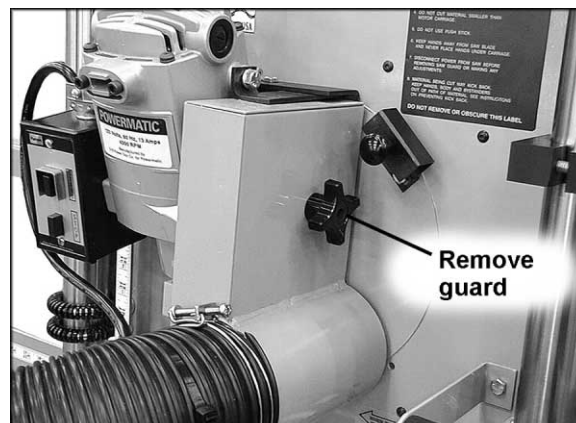

Figure 13
2. Tighten carriage lock and remove the blade guard by unscrewing and removing the knob, shown in Figure 13.